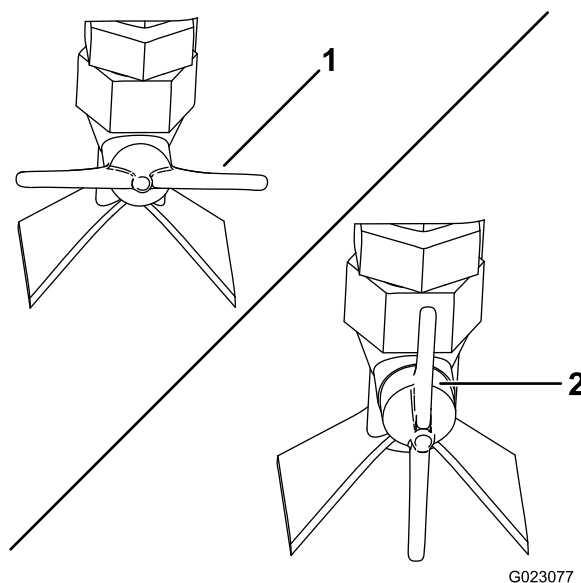

Figure 89
- For fan-shaped spray—turn the spray valve on the side of the nozzle horizontal (Figure 89).
- For a stream—turn the spray valve on the side of the nozzle vertical (Figure 89).